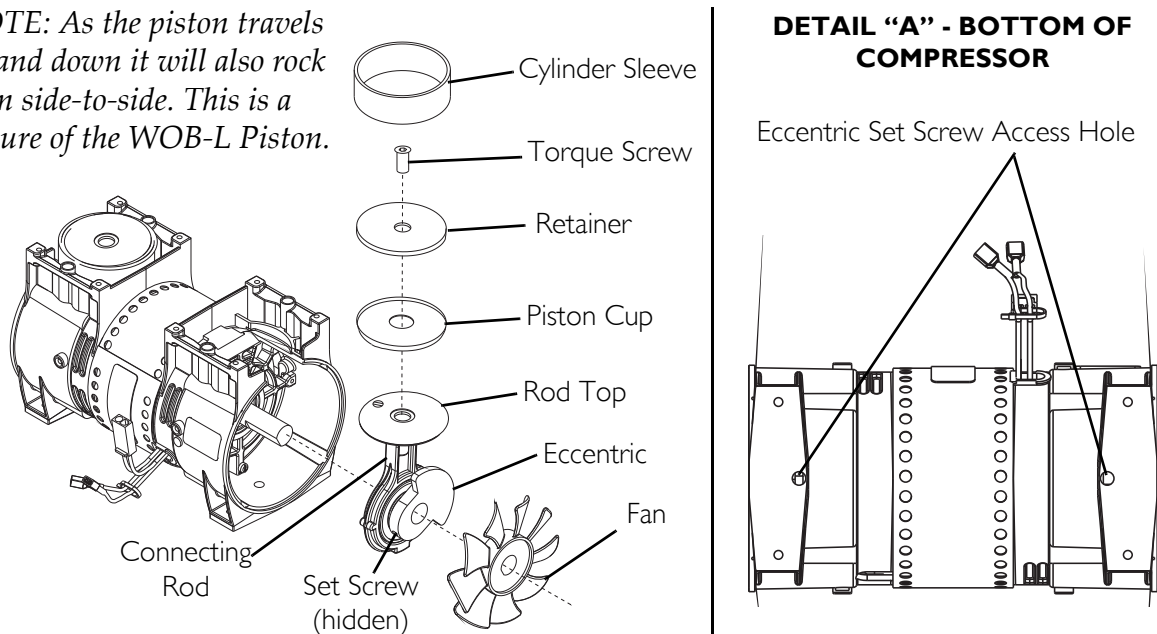

FIGURE 7.5 Removing Compressor and Compressor Heads - Rebuilding the Compressor - Fan - Connecting Rod and Eccentric Assembly - Piston Cup
NOTE: For this procedure, refer to FIGURE 7.5.
2. Insert the 1/8-inch Allen wrench into the access hole in the bottom of the compressor housing (Detail "A" of FIGURE 7.5).
NOTE: For this procedure, refer to FIGURE 7.5 on page 39.
4. Using the access hole, tighten set screw to 40 inch-lbs (Detail "A" of FIGURE 7.5).